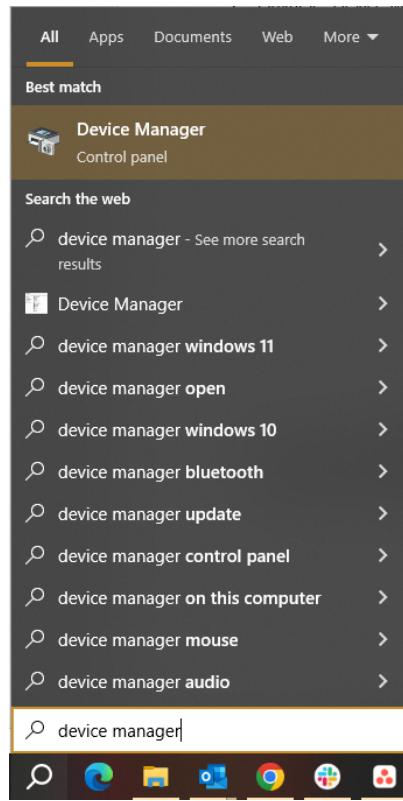

Figure 4.2: Find the Device Manager by Windows search bar.
2. On the computer, access the **Device Manager** by typing its name in the Windows search bar and selecting it from the results (Figure 4.2).